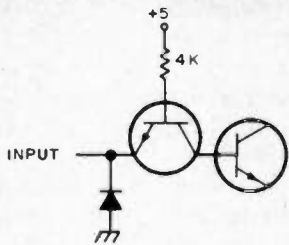
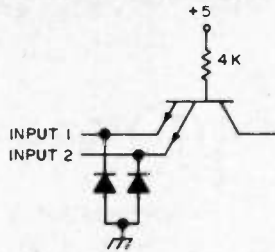

Fig. 2. Standard TTL input circuit.
Fig. 3. Input circuit of 2-input gate.
Next on the list of TTL "ins" let's investigate a typical input circuit as shown in Fig. 2. In order to guarantee that the transistor is turned on we must do two things. First, we must make the input voltage less than .8 V, and second we must draw out of the emitter 1.6 mA of current. In order to guarantee that the transistor is turned off we must also do two things. First, we must make the input voltage greater than 2 V, and second we may have to supply up to 40  $\mu$ A of leakage current. The diode is not necessarily present in all circuits. Its purpose is to limit
negative pulses on the input that may occur due to transmission line effects on long interconnections. This input characteristic is called 1 unit load (UL) and a circuit such as Fig. 2 which contains 1 UL is said to have a fan-in of 1.
If a second emitter is added to the circuit of Fig. 2 we have a 2-input gate configuration, as shown in Fig. 3. Each input has its own protection diode. If either input satisfies the "on" requirements the transistor will be on. Obviously, both inputs must satisfy the "off" requirements in order to turn the transistor off. By adding more emitters the manufacturers make multiple input gates. The 7430, for instance, has 8 emitters.